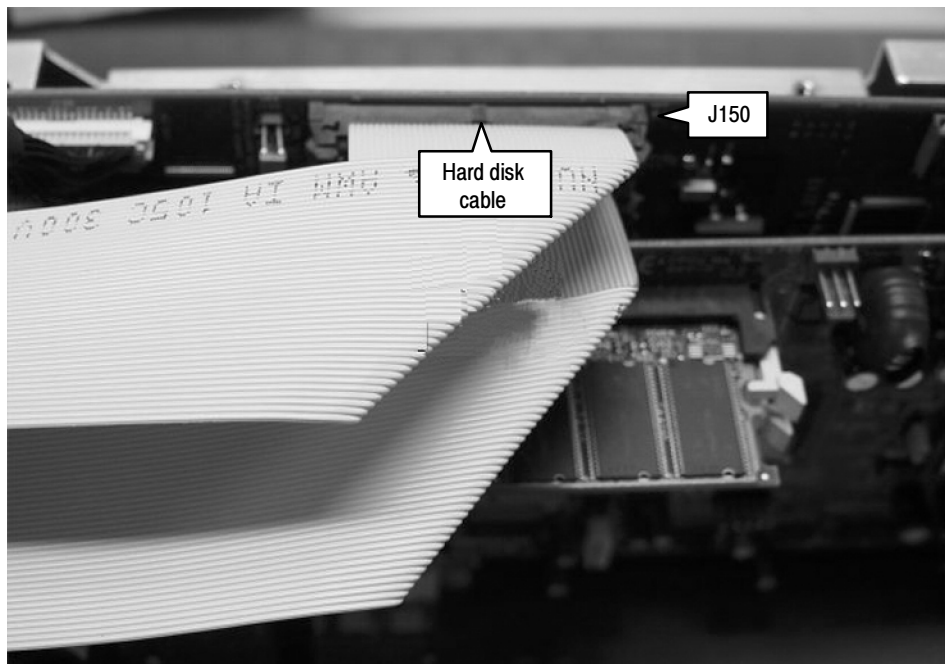

Figure 13: Connecting the hard drive cable
8. Connect the hard disk cable to J150 on the I/O board, marked “HDD” (see Figure 13).